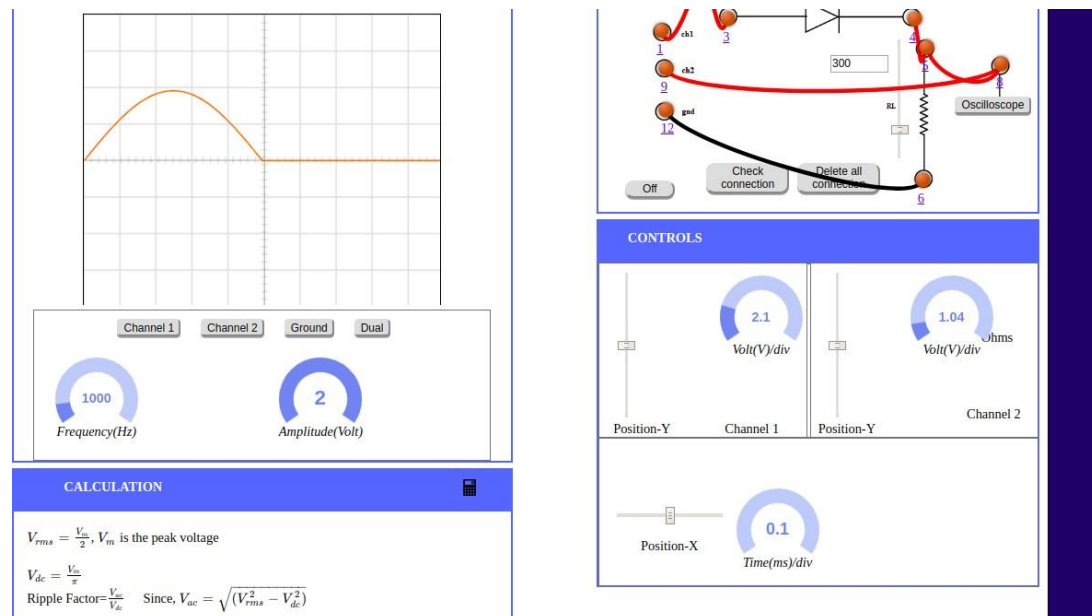

Figure 5
Step 2: In figure5, since channel 2--> volt/div is 1 volt and amplitude is 2 volt. Click on channel 2 function. The output signal shows the same.